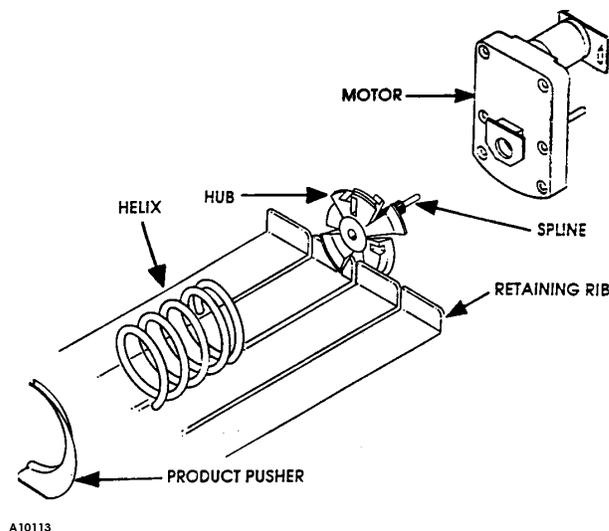

Figure 6. Auger Timing
4. Lift the motor slightly (approximately 3/4”) to disengage the auger hub from the retaining rib in the bottom of the tray. See **Figure 6**.